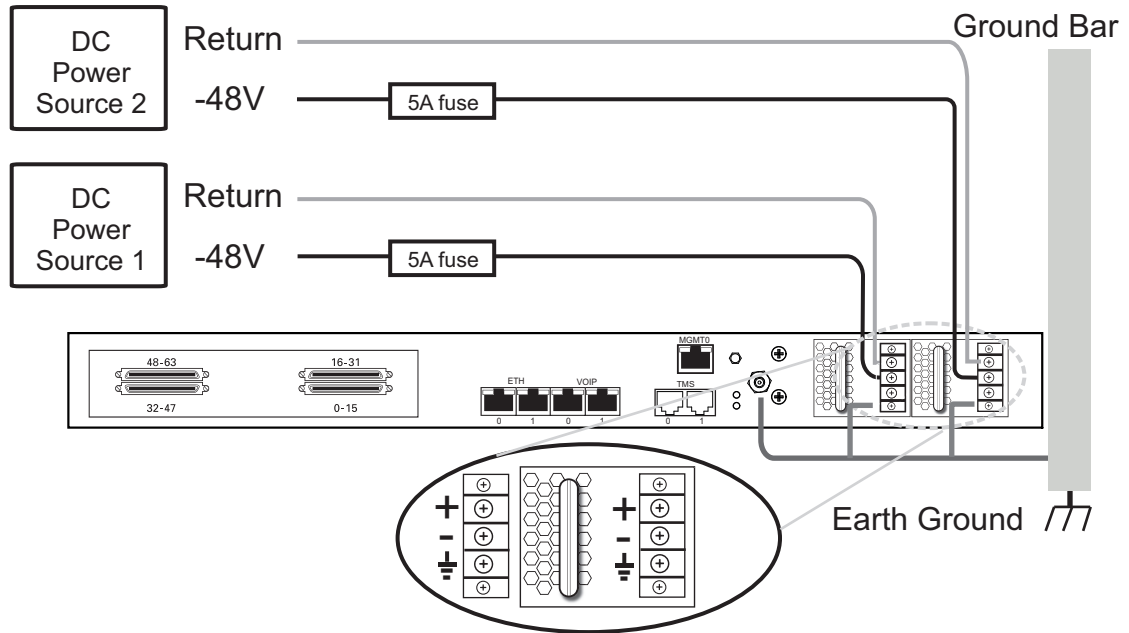

Figure 2.9 3200 Series Gateway DC Wiring Diagram
1. Connect one wire from the positive terminal of the 3200 series gateway to the return side of DC power source one, as shown in figure 2.9 on page 24.